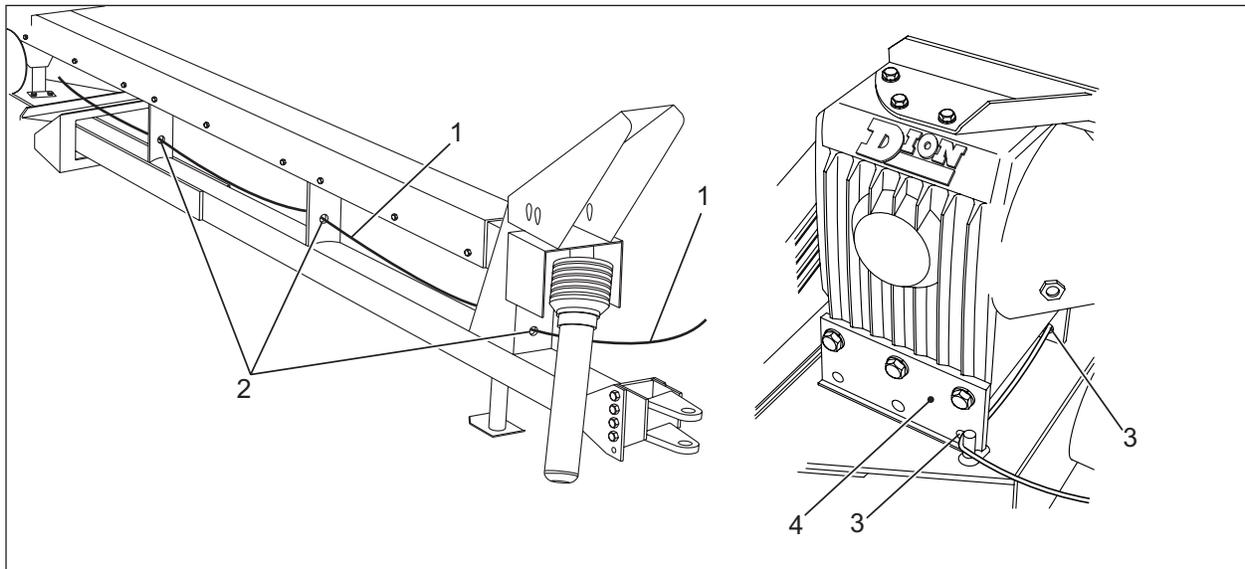

Figure 35
ÉTAPE 1 - FIGURE 35
ÉTAPE 2 - FIGURE 35